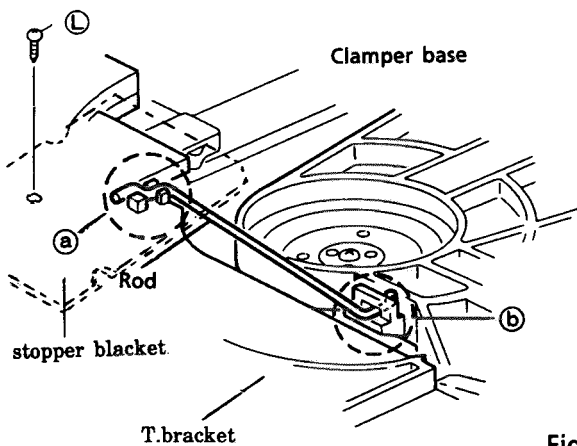

Fig. 20
2. Remove the screw ① holding the stopper blacket.(See Fig.20) --- (U.S.A and CANADA only)
3. Remove the rod from both ends' hooks which are secured on T.Bracket ③ and clamber base⑥. [See Fig. 20]